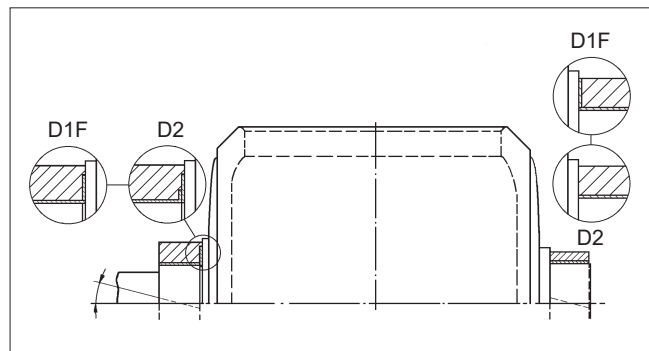

Fig. 13 PTFE bearings
- Place the bearings (60, 61) onto the thrust and trunnion bearings so that the PTFE surface touches the stem. See Figure 13.
- Push the bearing (60) into the thrust bearing (4).
- Turn the bearing (61) so that it fits inside the trunnion bearing (5). Push the bearing until the lip is flush with the flange groove. Then release the bearing and push the lip into the groove.
- When you install the thrust bearing (89), make sure that the PTFE surface is against the ball shoulder.